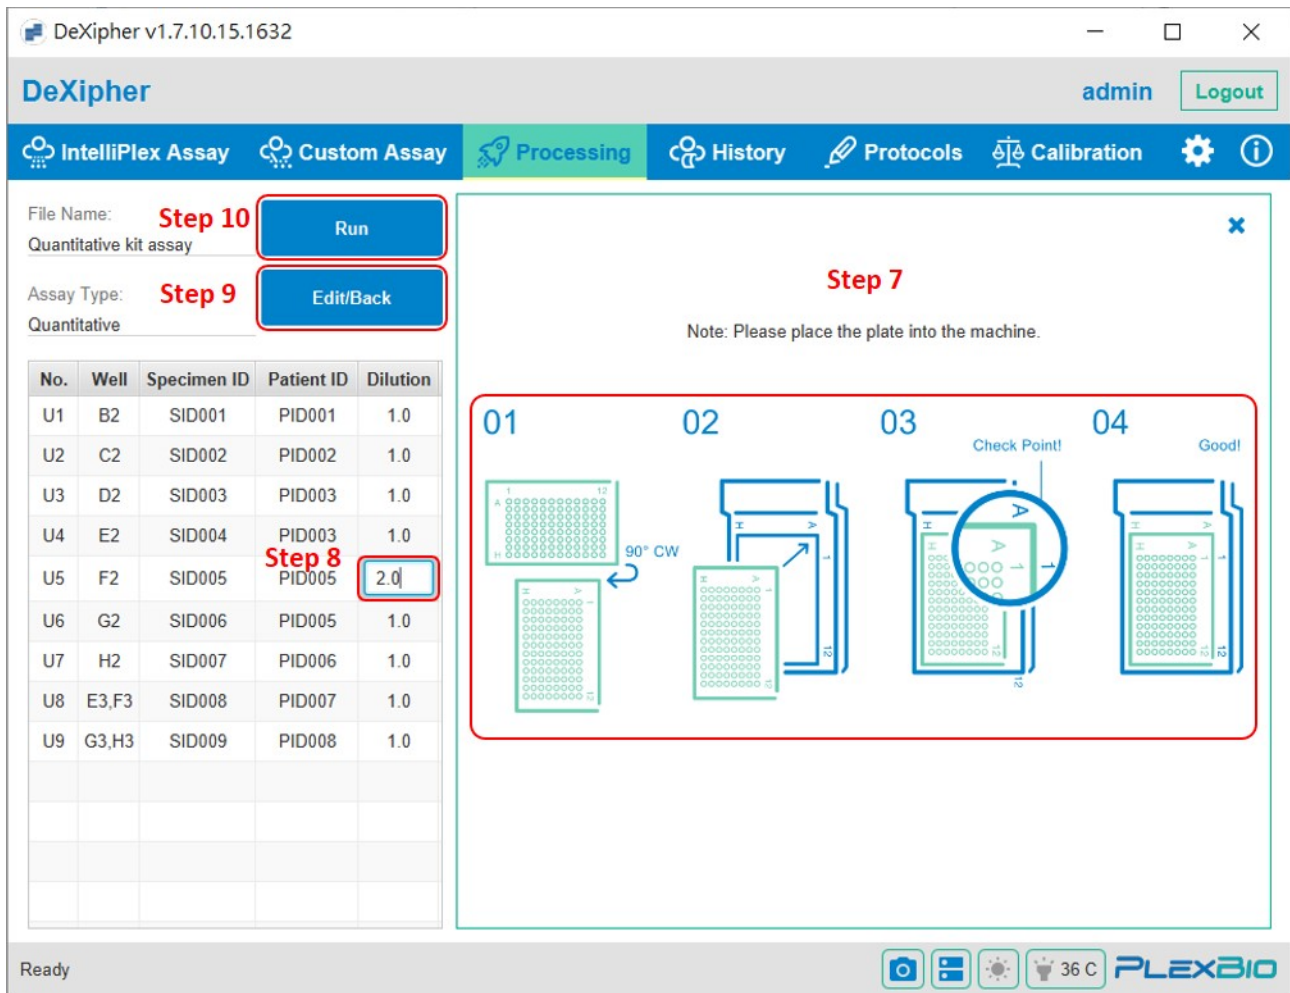

Fig. 18. IntelliPlex Assay - Processing
- Step 7. Follow the drawing to put the 96-well plate onto the stage (plate holder) with the correct orientation (Fig. 18).